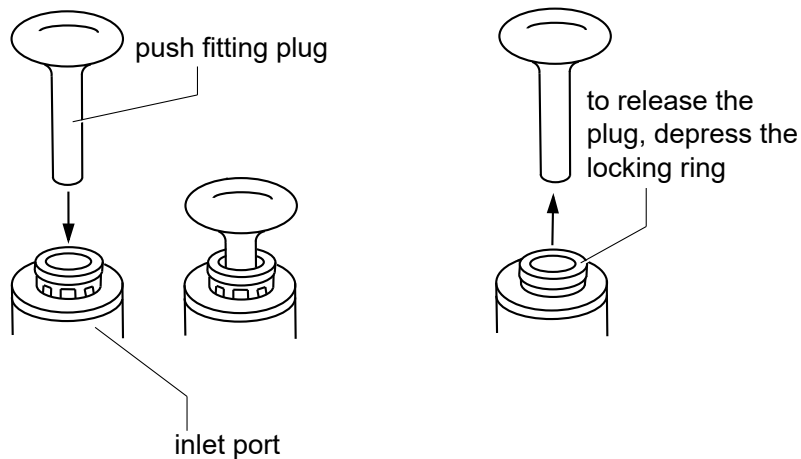

Figure 38. Inserting and removing the push fitting plug
3. The detector was shipped with push fitting plugs inserted in the inlet and outlet ports. Insert one of these plugs securely in the inlet port as shown in Figure 38.